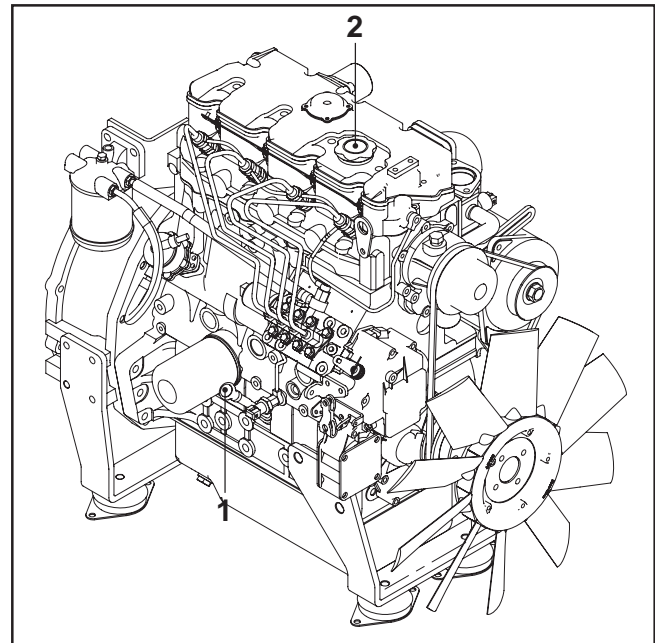

FIG.65
- Put the oil drain cap back on, remove the oil filler cap (FIG.65-REF.2), pour oil and put the cap back on. Check the rod's level is almost at maximum (FIG.65-REF.1).
- Remove the oil filler cap (FIG.65-REF.2), pour the oil and put the cap back on.
- Check the level on the dipstick (FIG.65-REF.1) is almost at maximum.